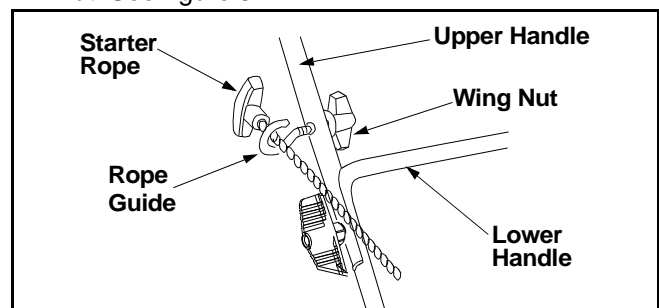

Figure 3
- The rope guide is attached to the right side of upper handle. Loosen the wing nut which secures the rope guide. See Figure 3.
- With the spark plug wire disconnected and grounded, and with the safety key in the locked position, pull the starter rope out of the engine. Slip the starter rope into the rope guide. Tighten wing nut. See Figure 3.